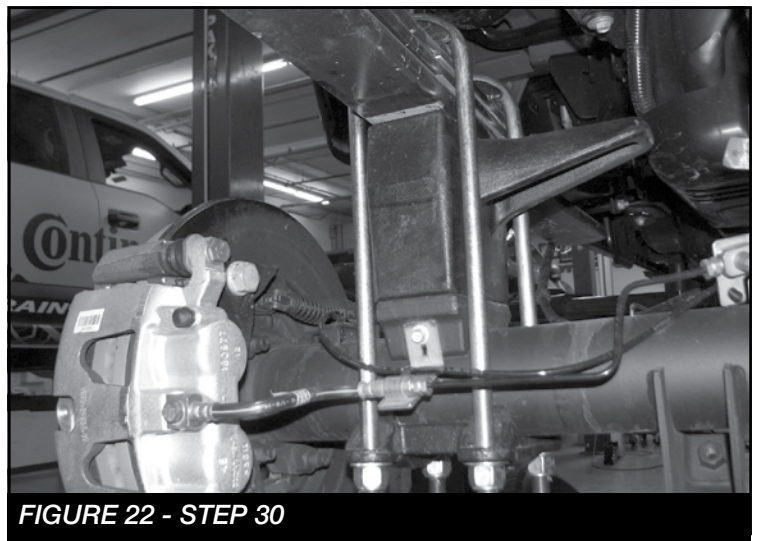

FIGURE 22 - STEP 30
30. Locate and install the rear lift blocks FTBK54D & P. The factory block will need to be removed. The short end of the blocks should face to the front of the vehicle. Using the supplied u-bolts, nuts and washers align axle, lift blocks and springs and torque to U-Bolts to 170 ft-lbs. **SEE FIGURE 22**